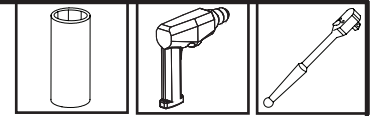

Fig. A9
1. Place each upper mounting channel inside the Yoke upper channel (Figure A9). Align mounting channel with the pre-drilled hole (Figure A9 - Inset).
4. Secure each upper mounting channel to the Yoke using a 1/4-20 x 1" screw (Figure A9-Inset).